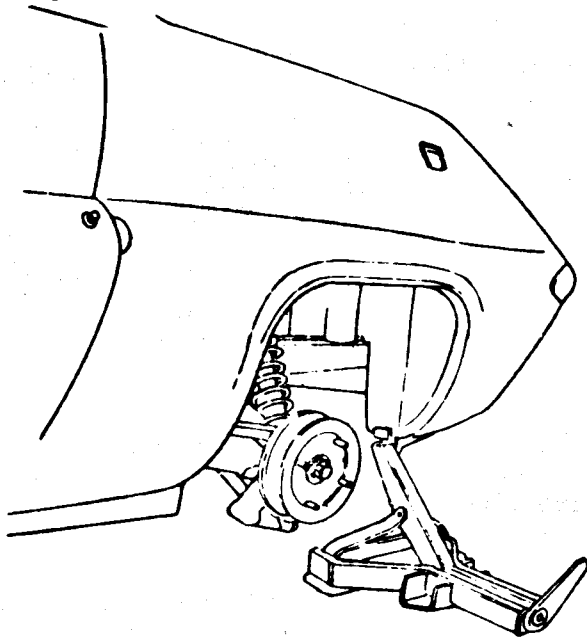

Fig. 5 - Rear Jacking Point.
3. Raise the rear of the car (see Fig.5) and support with chassis stands, then remove jack.